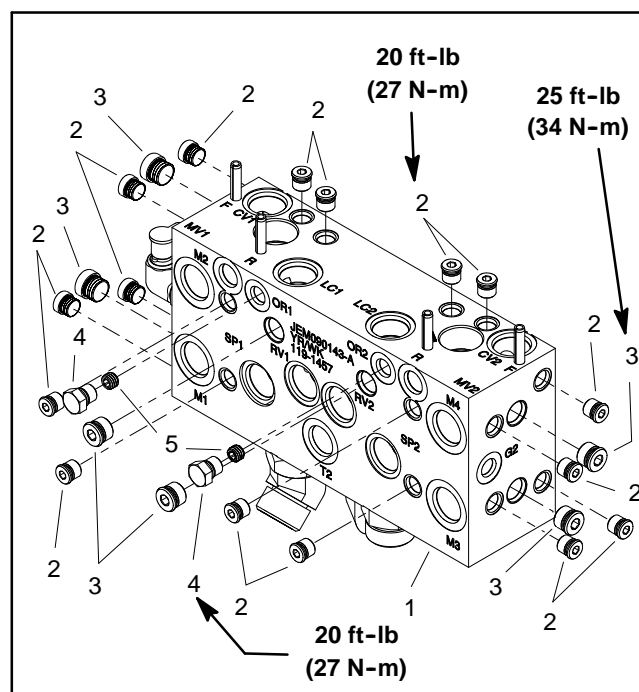

Figure 75
Manifold Plugs (Fig. 75)
1. Remove plugs as needed using Figure 75 as a guide. Discard O-ring after plug removal.